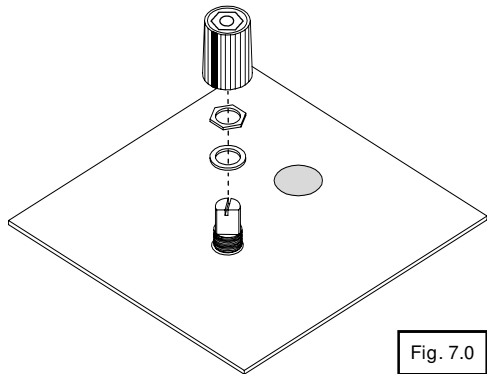

Fig. 7.0
- Slide the black plastic knob on the axle and fasten the unit (fig 7.0)